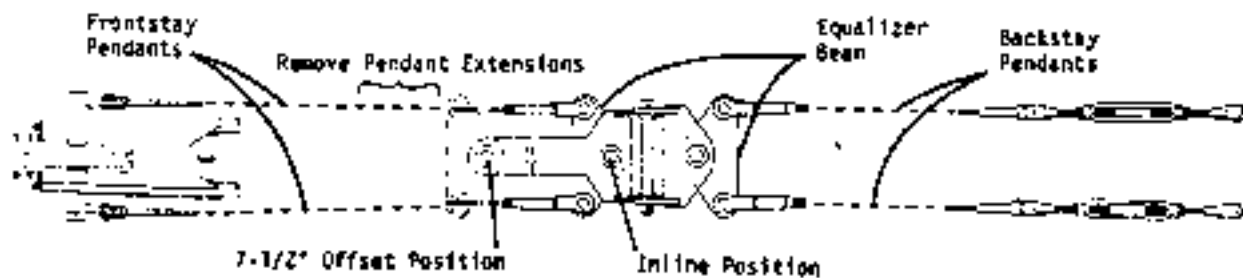

Fig. 4-66
- Step 9: Refer to Fig. 4-66 and position equalizer bearing pin in either 7-1/2' offset or the inline position. Attach backstay pendants to jib mast equalizer. Next, remove short pendant extensions from frontstay pendants and stow. Attach frontstay pendants to equalizer beam. Secure all pendants with pins and cotter pins.